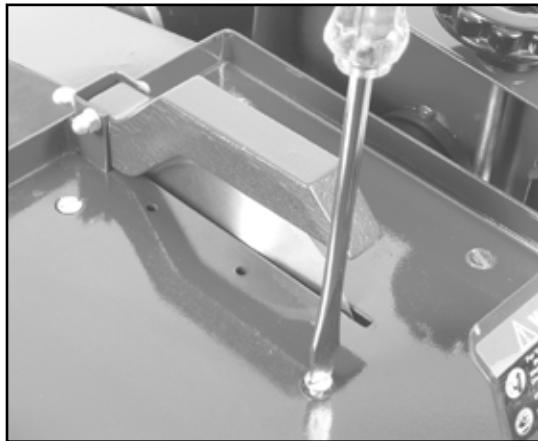
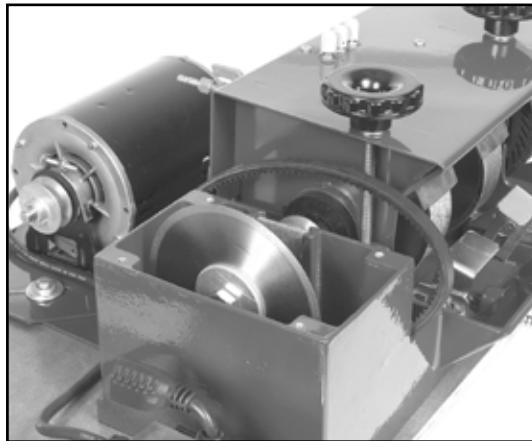

Fig 42 - Remove machine screws from table
Fig 43 - Remove saw table from coolant Tank
3. Remove the 4 flat-head screws that secure the saw table (fig 42) and remove the saw table from the coolant tank (fig 43).